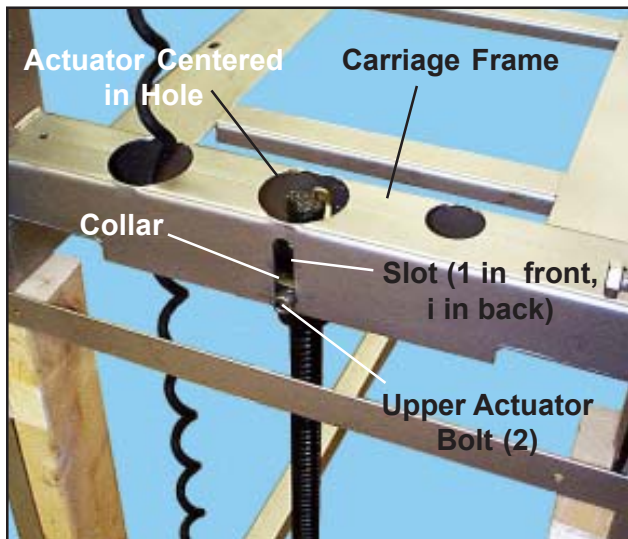

Figure 34. Upper Actuator Mounting
4. Pass the upper end of the actuator through the center hole in the carriage frame (Figure 34).
6. Hold the actuator so that the bolt holes in the collar line up with the slots in the carriage frame and the indents on the shaft nut. Secure the parts together with the two upper actuator bolts (Figure 34). **Note:** Leave the bolts slightly loose for now.